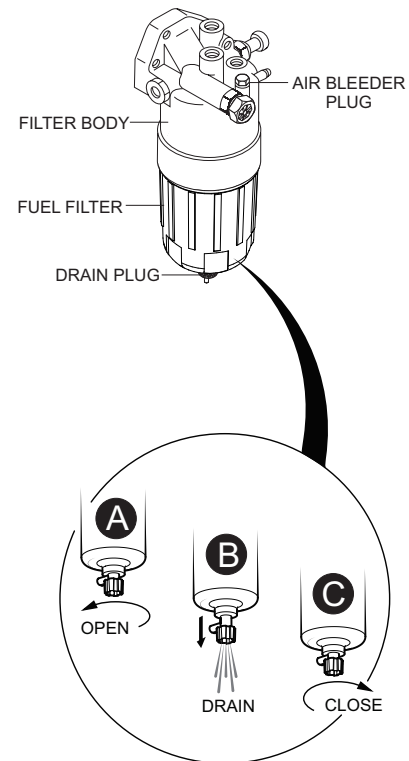

Figure 122. Draining The Fuel Filter
1. Loosen the **air bleeder plug** (Figure 122) on the fuel filter body.